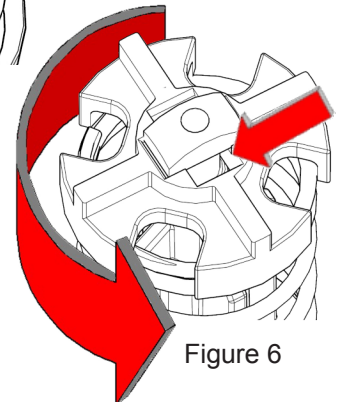

Figure 6
6. Move switch lever to the "OFF" (lowered) position (Figure 6) to stop the motor.
2. Push the bypass valve retainer down over the locking tab on the bypass valve. Push the retainer down (compressing the spring) until it is completely below the locking tab (Figure 6).